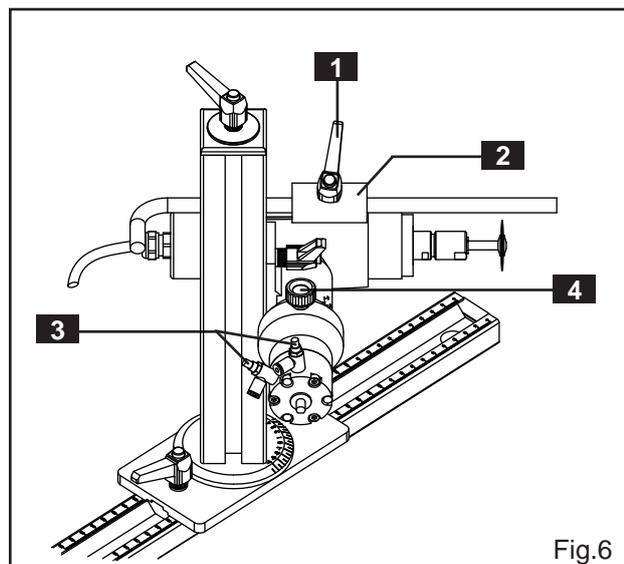

Fig.6
3. Adjust the load pressure (Fig.6)